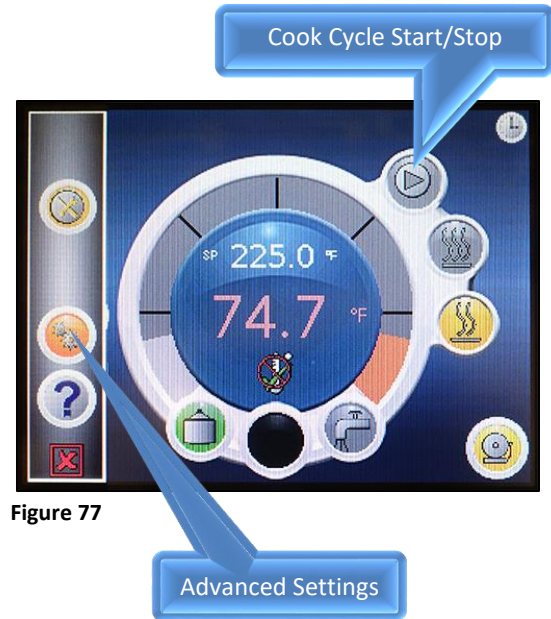

Figure 77
4. Press the **Cook Cycle Start** button, which turns the heating element on, Fig. 77. When **Cook** is in the **On** position, the background on the Cook Cycle On/Off button is red.